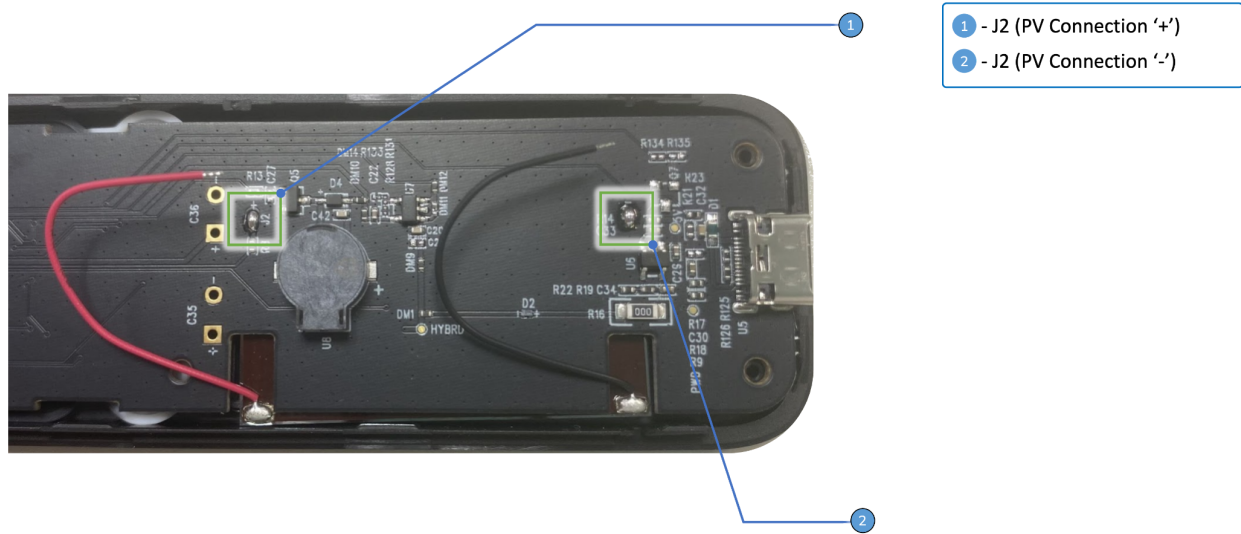

Figure 8 - Desolder PV for Current Consumption Measurement
- 1) Desolder PV cell from J2 pin1 and pin2 as Figure 8 shown. The ATM3330e PV RCU current consumption should be measured without harvesting function.